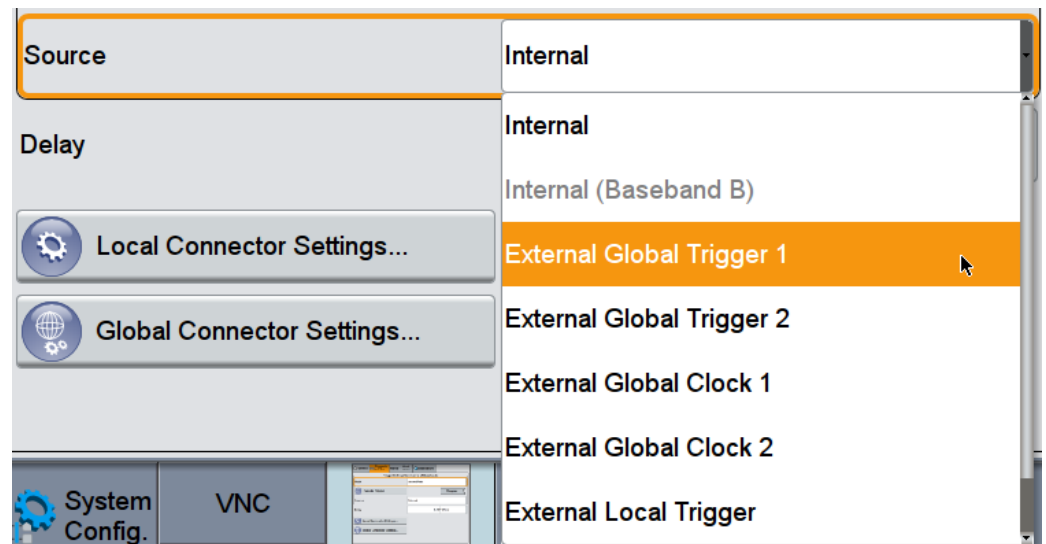

Fig. 3-12: SMW: select the trigger source. Example: "External Global Trigger 1" is selected here
8. Select the trigger **Source**. (Fig. 3-12)